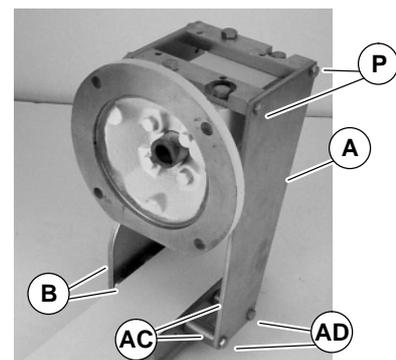

Figure 5
NOTE: 102mm and wider mounting assembly shown. 51mm and 76mm wide mounting assemblies include two spacer tubes (AC of Figure 5) and two long M6 screws (AD).
- 4b. For 51mm and 76mm wide conveyors, loosen (but do not remove) screws (P of Figure 5). Attach top mount assembly (A) to conveyor with two screws (B), spacer tubes (AC) and screws (AD). Tighten screws (B), (AD) and (P) to 10.4 Nm.